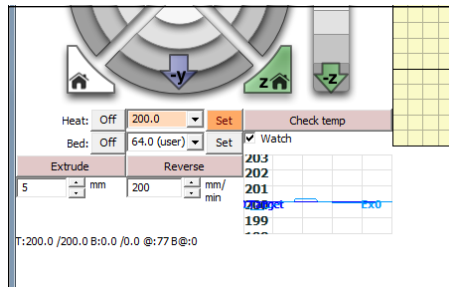

FIGURE 15-23: Controlling the extruder in Pronterface.
You can extrude and reverse the extruder only when it's up to temperature. This manual control is essential for loading and removing filament and for purging any old material. In Pronterface, you can command the extruder to extrude or reverse the stepper motor by a set distance (specified in millimeters, as shown in Figure 15-23).
- 2. When the hot-end is at temperature, insert the filament and then click the Extrude button in Pronterface. (Refer to Figure 15-23.)**